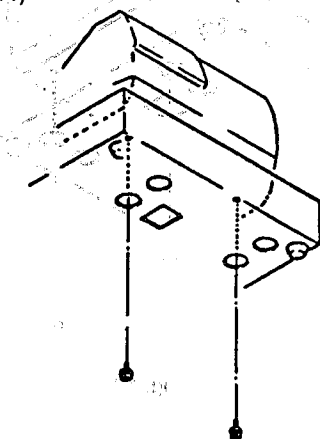

Fig. 13-11
4. Secure the front side of the drawer with the two screws removed at 1). (Fig. 13-11)